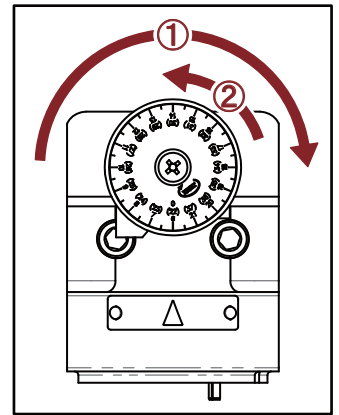

Fig. 6-1
1. Preset the scale of the positioning shelf. (Fig. 6-1)
- ① Turn it by clockwise to the end.
- ② Turn it by counterclockwise at "0".